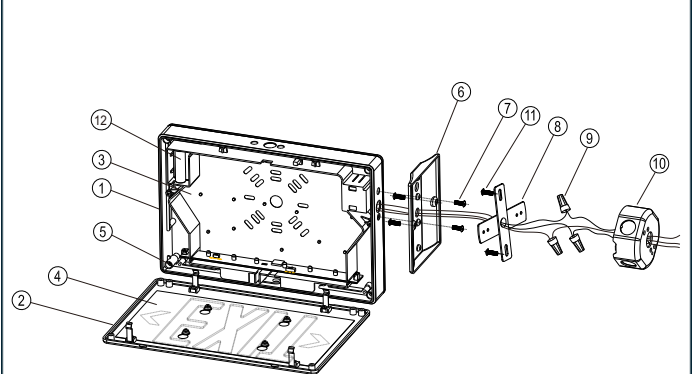

Fig 7
- b. Attach crossbar to junction box (Fig 7, 8). Secure canopy to the housing using hole numbers "2" and "3" on the canopy with provided canopy screws ((2) # 10-24 screws).